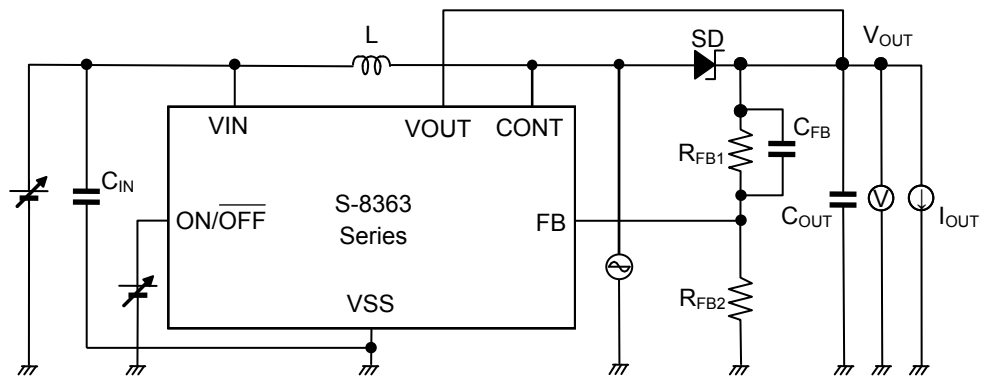

Figure 6
- *1. This is the guaranteed value measured with external parts shown in “Table 6 External Parts List” and with test circuits shown in Figure 6. The operating start voltage varies largely depending on diode’s forward voltage. Perform sufficient evaluation with actual application.